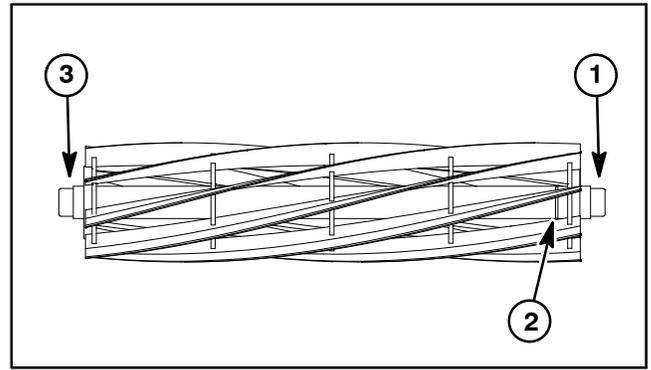

Figure 29
1. Remove reel nuts (items 5 and 6) from cutting reel. The black reel nut (item 6) has LH threads and is installed in end of reel shaft identified with a groove that is just inside of reel spider (Fig. 29).
3. Install reel nuts (items 5 and 6) into reel shaft to secure bearings. Black reel nut (item 6) has LH threads and should be installed in end of reel shaft identified with a groove that is just inside of reel spider (Fig. 29).